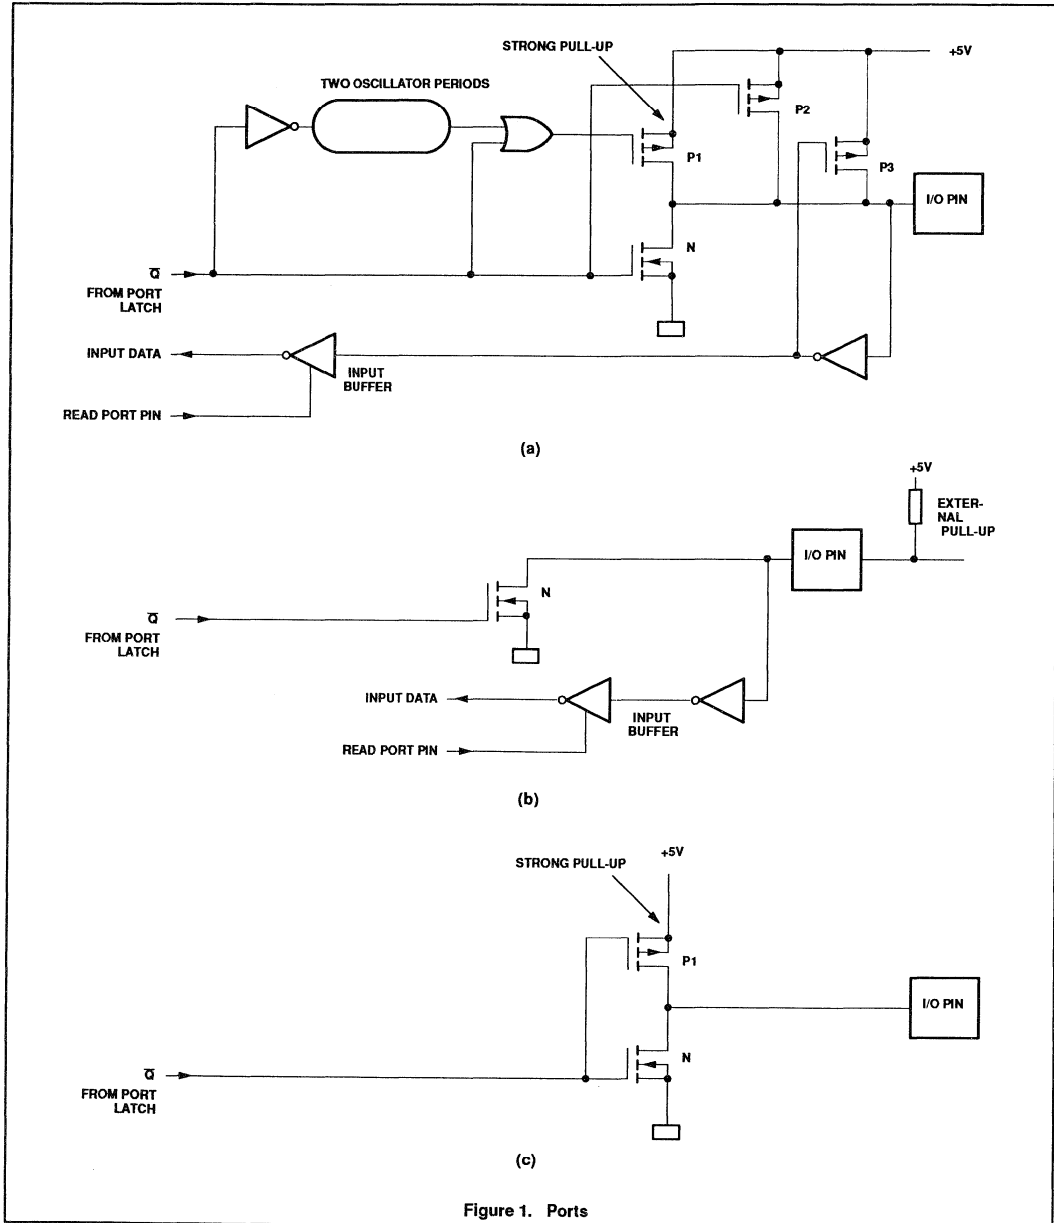

Figure 1. Ports
The pins of port 1 (not P1.6/SCL or P1.7/SDA), port 2, and port 3 may be individually configured with one of the following port options (see Figure 1):
- Option 1: **Standard Port**—quasi-bidirectional I/O with pull-up. The strong booster pull-up p1 is turned on for two oscillator periods after a 0-to-1 transition in the port latch. See Figure 1(a).
- Option 2: **Open Drain**—quasi-bidirectional I/O with n-channel open drain output. Use as an output requires the connection of an external pull-up resistor. See Figure 1(b).
- Option 3: **Push-Pull**—output with drive capability in both polarities. Under this option, pins can only be used as outputs. See Figure 1(c).
Option 2: **Open drain**—quasi-bidirectional I/O with n-channel open drain output. Use as an output requires the connection of an external pull-up resistor. See Figure 1(c).